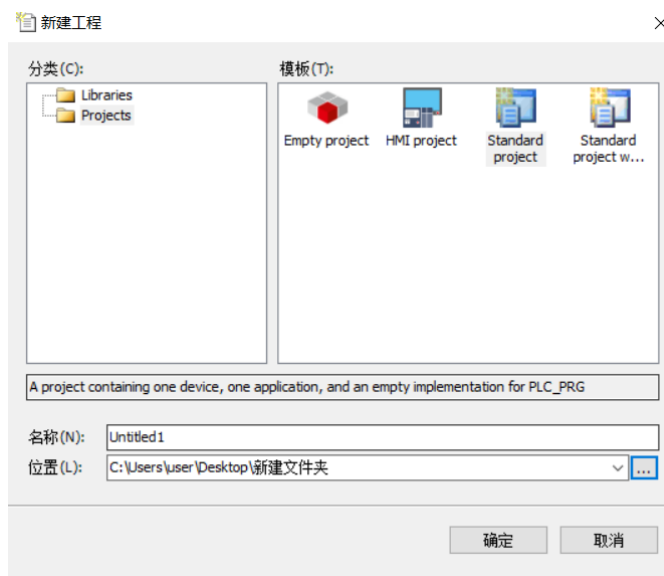

Figure 13-2 Project classification
2. Select [Standard project] to define the name and storage path, then click [OK], as shown in Figure 13-2